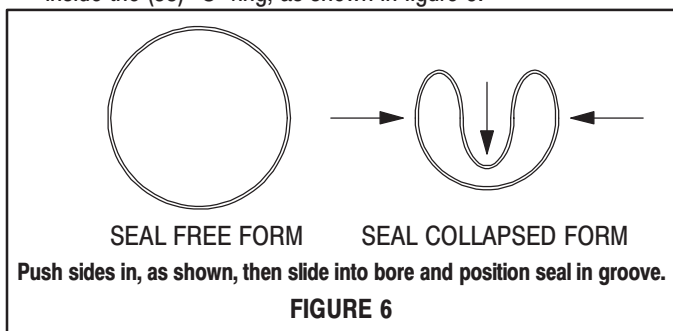

FIGURE 6
16. Press the (44) tube into the counterbored hole in the (26) air motor base and bearing assembly.
17. Push the (11) extension rod through the (42) "O" ring in the base of the (35) head assembly.
18. Align and press the (35) head assembly down until the (18) cylinder and (44) tube are seated in the head assembly.
19. Insert the six (23) bolts down through the holes in the flanges of the (35) head assembly and the air motor base and bearing assembly.
20. Screw the six (22) nuts on the six (23) bolts. Alternately and evenly tighten the nuts.
21. Thoroughly grease and install the (9) "U" cup packing in the (10) adapter, with the lips of the packing down toward the thick flange of the (10) piston adapter.
22. Thoroughly grease and install the (38 and 13) "O" rings in the (7) upper gland.
23. Bend the (39) seal in a heart shape and install in the (7) upper gland inside the (38) "O" ring, as shown in figure 6.